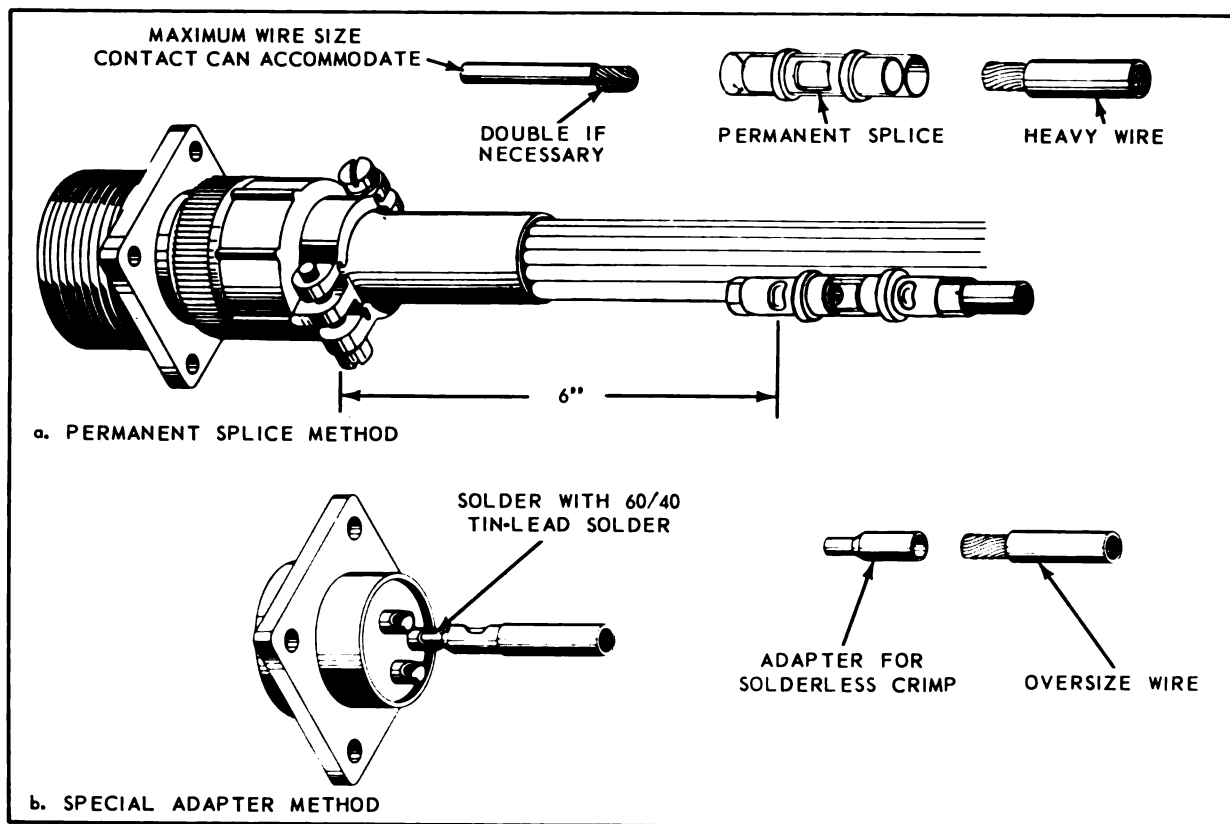

Figure 3-82. Reducing Wire Size at MS Connector
b. Select a six inch length of wire which will fit the cup of the contact. Strip one end sufficiently long to be able to double the stripped portion back on itself as shown in figure 3-82.
3-102. A second method for reducing wire size at an MS connector is by the use of an adapter as shown in figure 3-82. Select an adapter to suit the reduction requirements from table 3-22. The procedure is as follows: